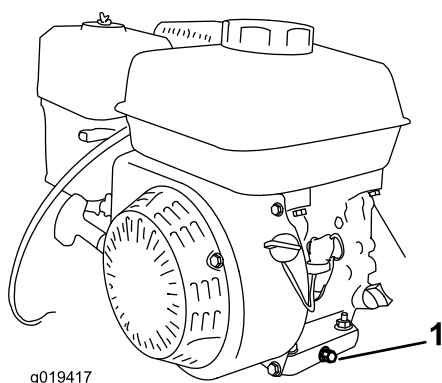

Figure 18
5. Remove the drain plug (Figure 18).